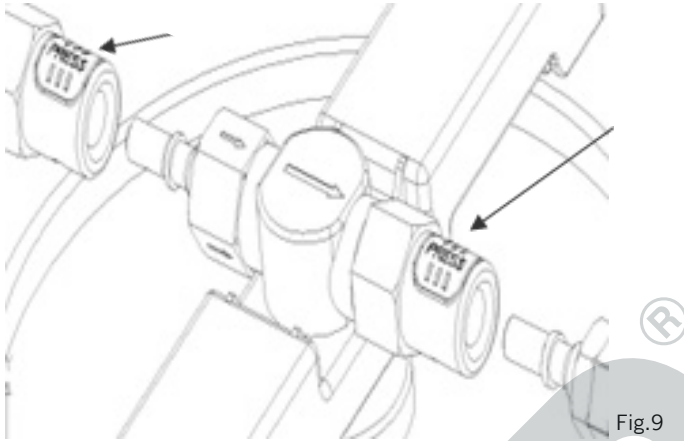

Fig.9
3. Disconnect the CO2 cartridge and pull the beer hose out, by pressing the white release button (Fig. 9). It is easier if you press the two connecting elements together while doing this.